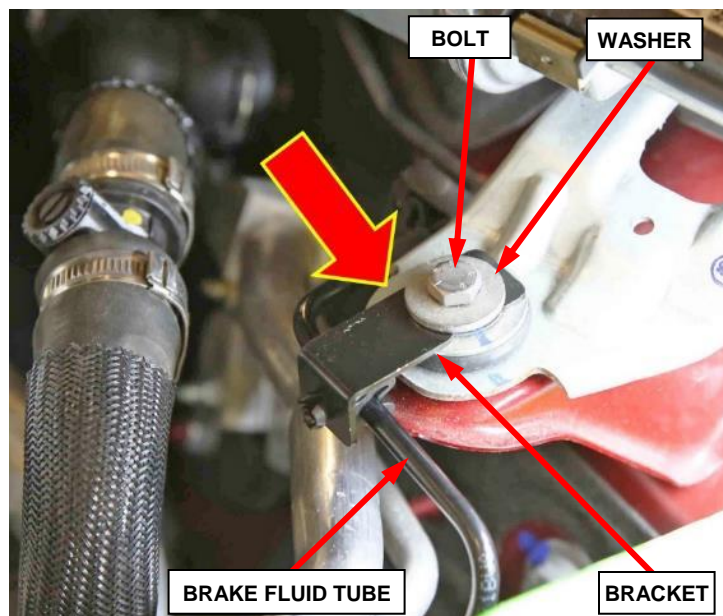

Figure 17 – Slide Bracket Under Washer
4. Slide the retaining bracket under the washer of the bolt until it stops (Figure 17).
5. Tighten the bolt to 8 N·m (71 in. lbs.) (Figure 17).